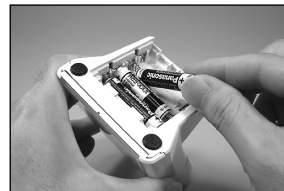

Fig. 4
- ② Set the attached batteries according to the polarity indication (positive (+), negative (-)) in the battery box. (Fig. 4)